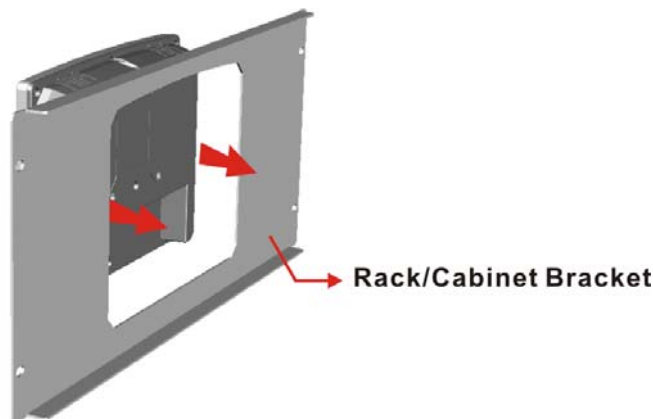

Figure 3-23: The Rack/Cabinet Bracket
Step 2: Slide the rear of the PPC-F12B/15B/17B-BTi flat panel PC through the rack/cabinet bracket until the aluminum frame is flush against the front of the bracket (**Figure 3-23**).